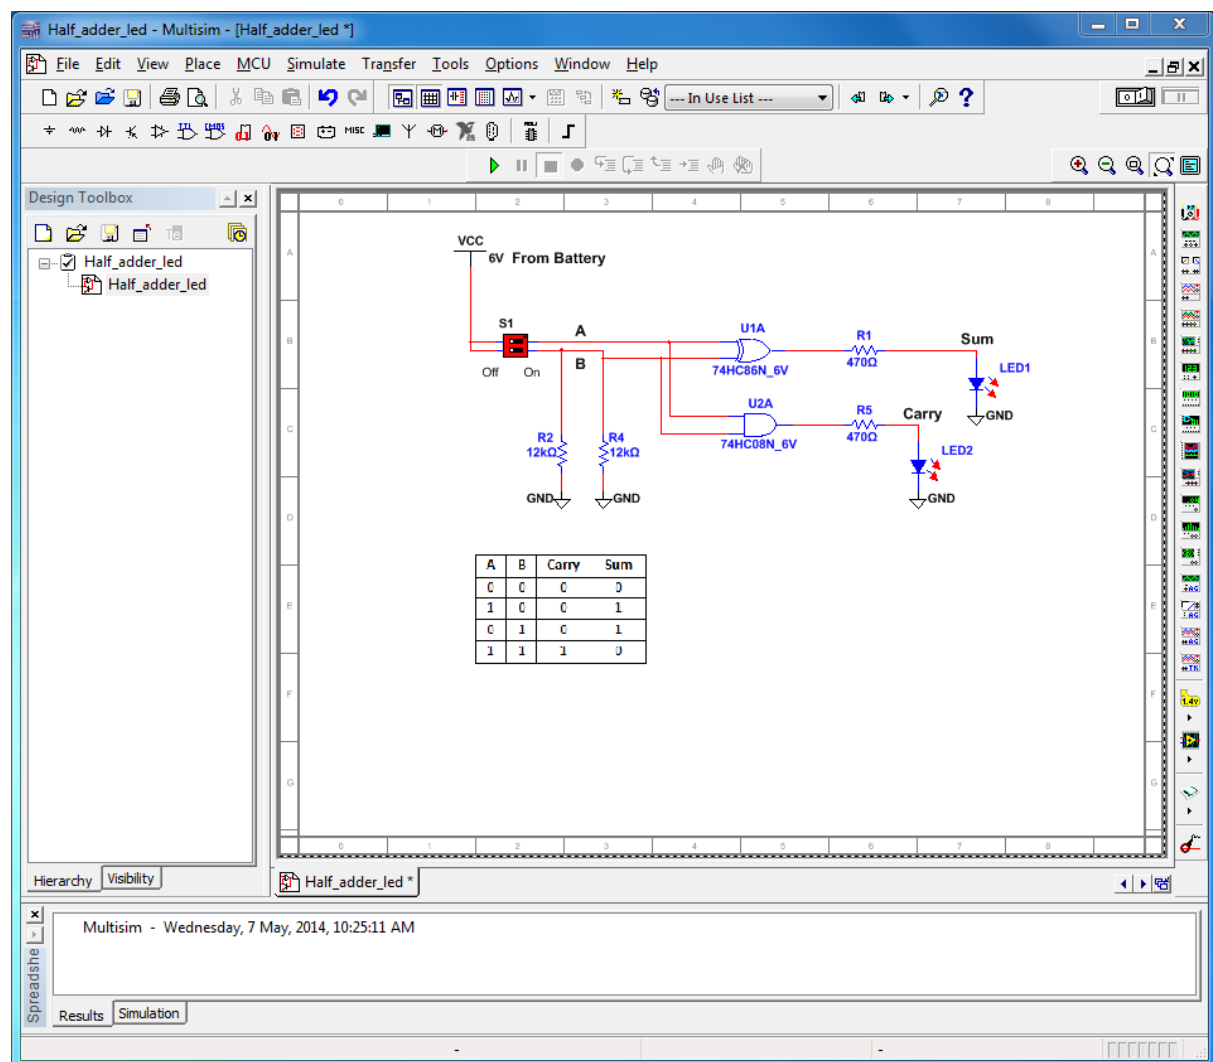

Figure 1: Multisim's user interface
Multisim is a schematic capture and simulation application that assists you in carrying out the major steps in the circuit design flow. **Multisim** can be used for both analog and digital circuits and also includes mixed analog/digital simulation capability, and microcontroller co-simulation. Simulating the circuits before building them will point out errors early in the design flow, save both time and money. The **Multisim**'s user interface and its main elements can be seen in Figure 1. **Ultiboard**, fed from **Multisim**, is used to design printed circuit boards (PCB), perform certain basic mechanical CAD operations, and prepare them for manufacturing. **Ultiboard** also provides automated parts placement and layout.
1. Select **Start » All Programs » Applications » National Instruments » Circuit Design Suite 12.0 » Multisim 12.0**. A blank file opens on the workspace, just like Figure 1.